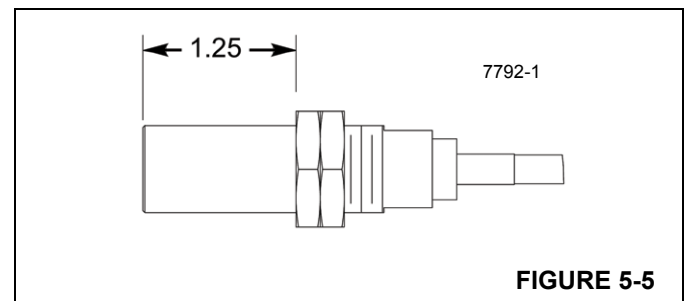

FIGURE 5-5
1. Turn the two jam nuts on the drum rotation sensor to produce 1.25 in. (31 mm) installed length of threads measured from the bottom of the sensor to the bottom jam nut (Figure 5-5).